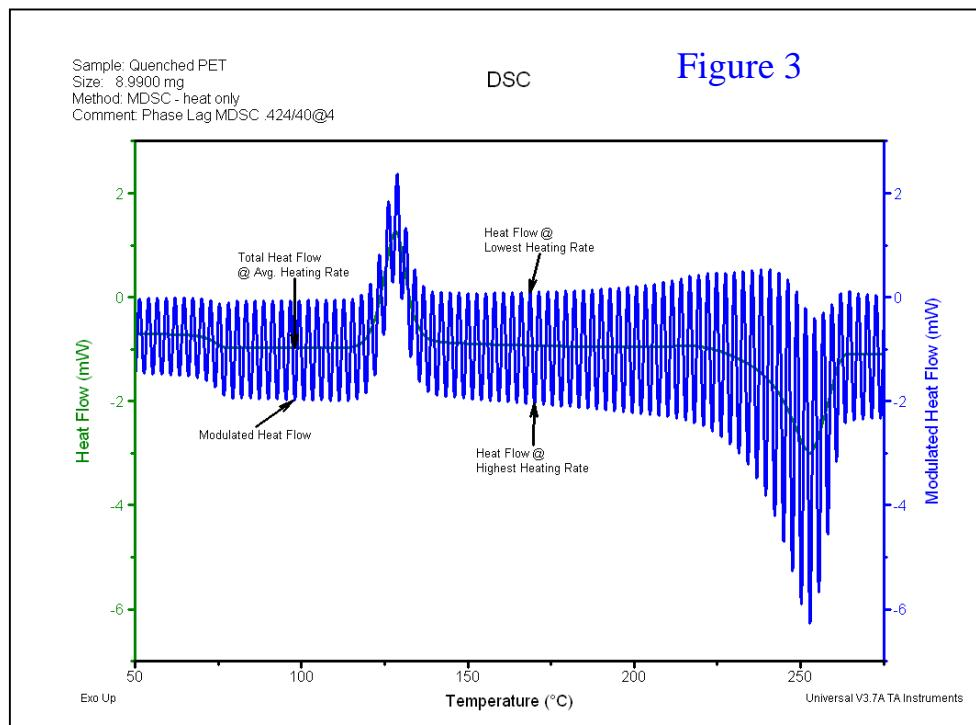

Figure 4
- The *Reversing Heat Flow* signal is calculated from the *Reversing Heat Capacity* signal as described below and as shown in Figure 4. As with *Total Heat Flow*, the amplitudes of the heat flow and heating rate signals are calculated using Fourier Transform analysis.